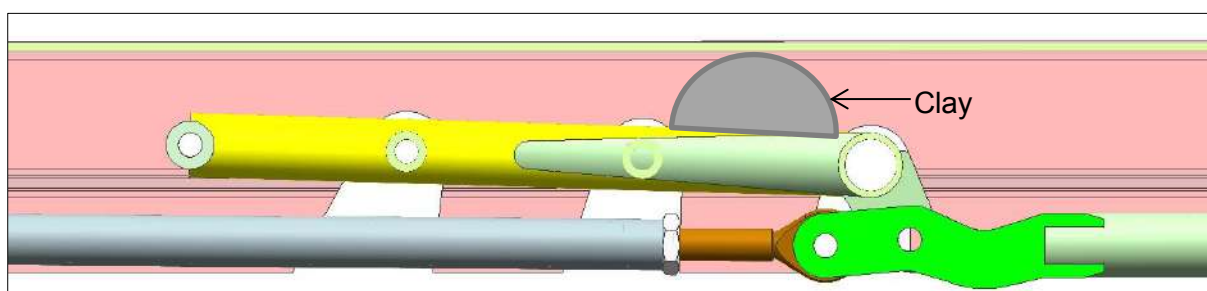

Figure 27-26: Modelling clay position
12. Check that airbrake blade 1 goes fully down during locking. Check for interference between the airbrake blade 1 stiffener and the inner airbrake lifter using modelling clay (Figure 27-26). Remove maximum 1 mm material on the stiffener if required.